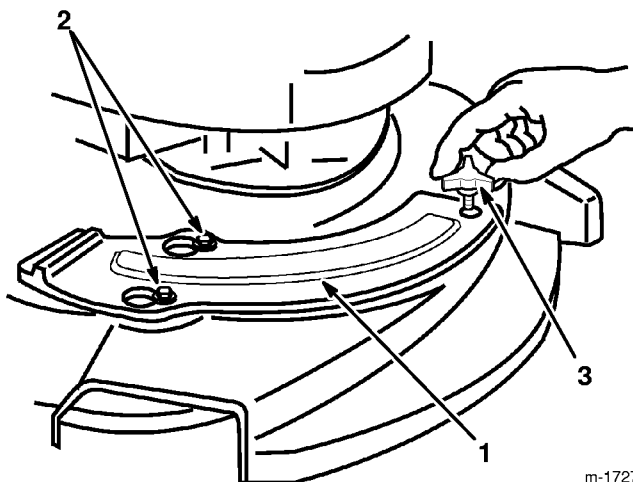

Figure 46
- Two shoulder bolts on the housing protrude through slotted holes in the mulch plate and do not have to be loosened or removed (Fig. 46). Mulch plate moves over the shoulder bolt heads.
- Secure with knob (Fig. 46).